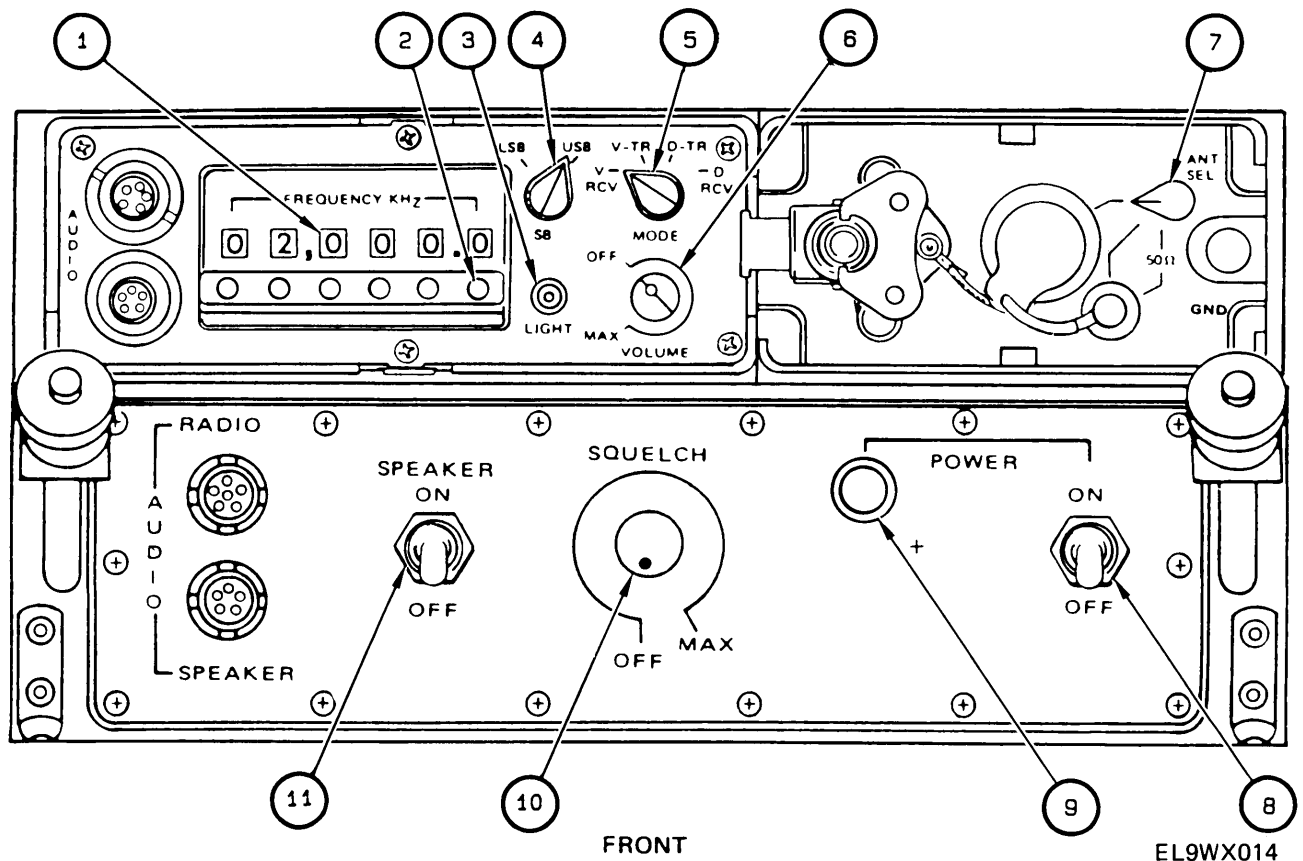

Figure 3-1. Controls and Indicators
a. *Receiver/Exciter.* The controls and indicators of the receiver/exciter (fig. 3-1) are listed in table 3-1.
b. *Amplifier/Coupler.* The controls and indicators of the amplifier/coupler (fig. 3-1) are listed in table 3-1.
c. *Amplifier-Power Supply.* The controls and indicators of the amplifier-power supply (fig. 3-1) are listed in table 3-1.